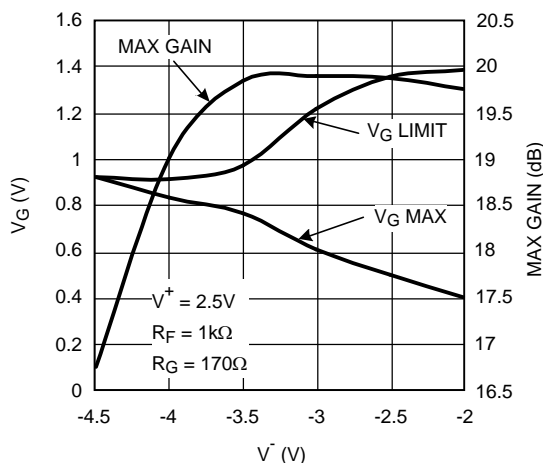

Figure 67.  $V_{G\_MAX}$ ,  $V_{G\_LIMIT}$ , & Max-gain vs.  $V^-$  ( $V^+ = 2.5V$ )
- a)  $V_G$  range constricts. Referring to Figure 67, note that  $V_{G\_MAX}$  ( $V_G$  voltage required to get maximum gain) is  $0.5\text{V}$  ( $V_S = \pm 2.5\text{V}$ ) compared to  $1.0\text{V}$  for  $V_S = \pm 5\text{V}$ . At the same time, gain cut-off ( $V_{G\_MIN}$ ) would shift to  $-0.5\text{V}$  from  $-1\text{V}$  with  $V_S = \pm 5\text{V}$ .
- b)  $V_{G\_LIMIT}$  (maximum permissible voltage on  $V_G$ ) is reduced. This is due to limitations within the device arising from transistor headroom. Beyond this limit, device performance will be affected (non-destructive). Referring to Figure 67, note that with  $V^+ = 2.5V$ , and  $V^- = -4V$ ,  $V_{G\_LIMIT}$  is approaching  $V_{G\_MAX}$  and already "Max gain" is reduced by 1dB. This means that operating under these conditions has reduced the maximum permissible voltage on  $V_G$  to a level below what is needed to get Max gain. If supply voltages are asymmetrical, reference Figure 67 and Figure 68 plots to make sure the region of operation is not overly restricted by the "pinching" of  $V_{G\_LIMIT}$ , and  $V_{G\_MAX}$  curves.
- c) "Max\_gain" reduces. There is an intrinsic reduction in max gain when the total supply voltage is reduced (see Figure 43). In addition, there is the more drastic mechanism described in "b" above and shown in Figure 67.